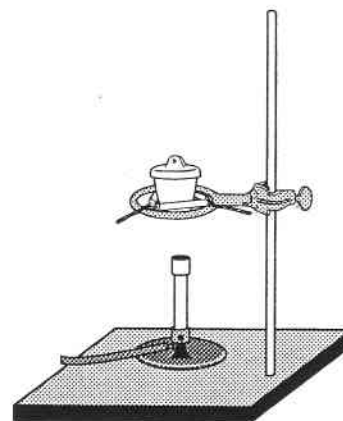

Figure 3.
- Set up a Bunsen burner on a ring stand beneath a ring clamp holding a clay pipestem triangle. (See Figure 3.) Do NOT light the Bunsen burner.